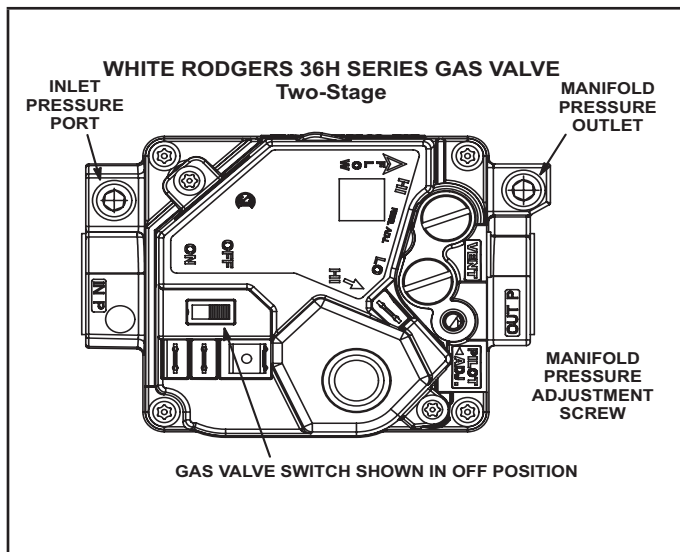
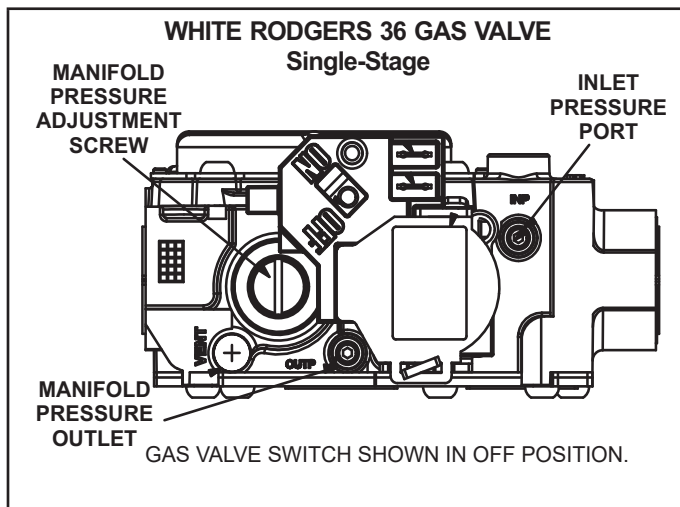

FIGURE 11
FIGURE 12
OPERATION OF WHITE RODGERS 36H SERIES VALVE (FIGURE 11) AND WHITE RODGERS 36G SERIES GAS VALVE (FIGURE 12)
- 2 - After line pressure has been checked and adjusted, check regulator pressure. Correct manifold pressure is shown on the unit rating plate. See figures 11 and 12 for gas pressure adjustment screw location. A natural gas to LP/propane gas changeover kit is required to convert the unit in the field. Refer to installation instructions provided with changeover kit for conversion procedure.